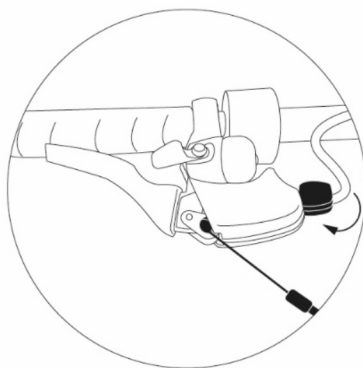

Figure 15 - Disc 2 brake wire installation
4. Slide the brake wire inside the lever body and the adjustment pawl (**See Figure 15 - Disc 2 brake wire installation**);